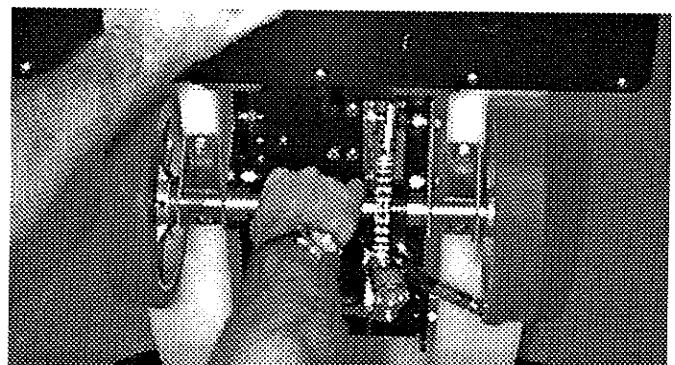

FIG. 14
3. Loosen (6) axle support screws with a 9/16" (14mm) wrench.
4. Pull axle until chain flexes no more than 1/4" (6.4mm). (Figure 14)